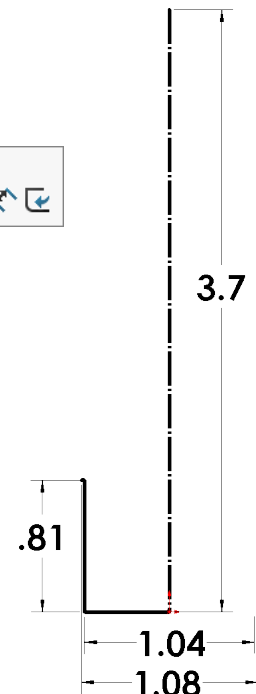

Fig. 4
Step 8. Dimension lines, **Fig. 4**. Dimension **double distance both diameters**. To double distance dimension inside diameter, click centerline and then left vertical line, move the cursor Origin and click. Key-in 1.04 in the Modify box and press ENTER. Double distance outside diameter.
Step 9. Click Zoom to Fit  (F) on the View toolbar.